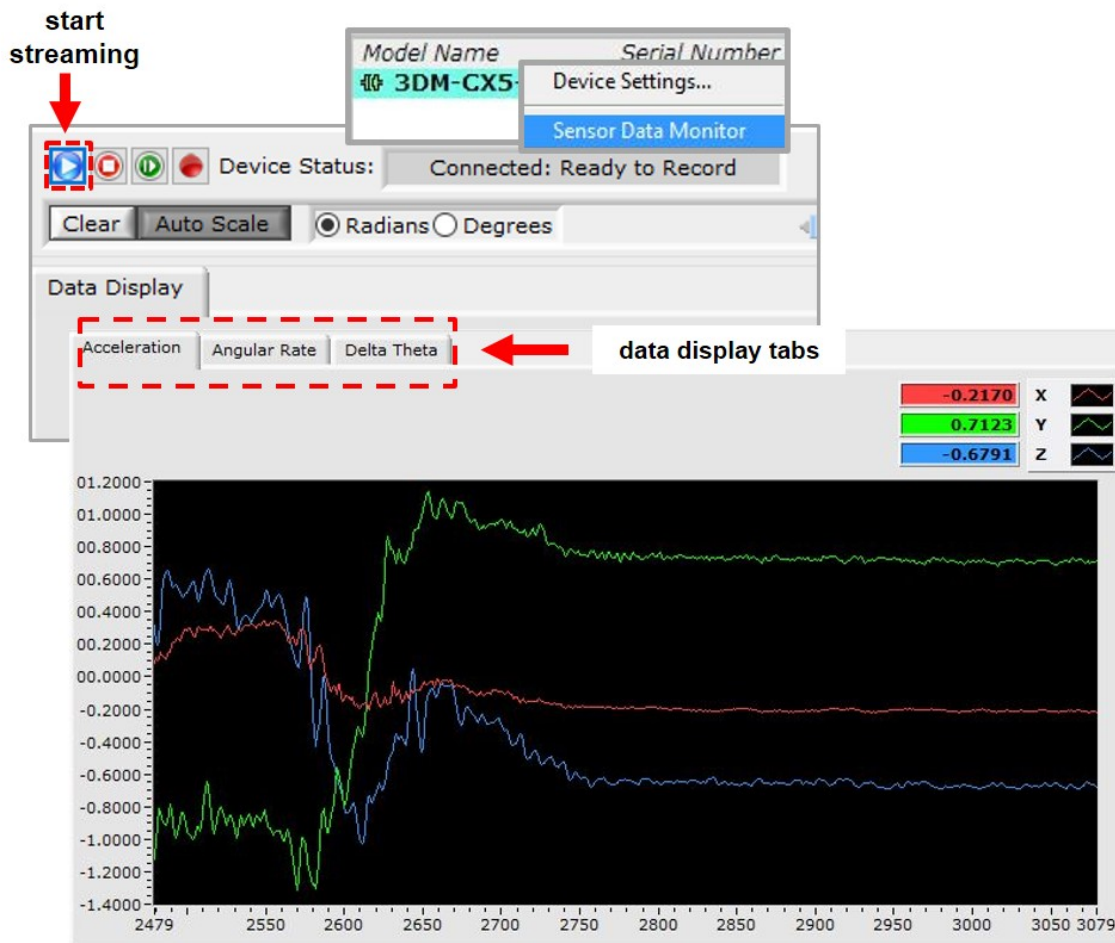

Figure 11 -Data Streaming
*Figure 11 - Data Streaming* is an example of Sensor Data Monitoring, which displays the selected IMU/AHRS measurements. In data monitoring windows, no data will be displayed until data streaming is started, and no data will be recorded (even if it is being viewed) until data recording is initiated (armed). In the example below, the y-axis of the graph indicates data points, the x-axis is the measurement units, and there is a tab for each measurement.